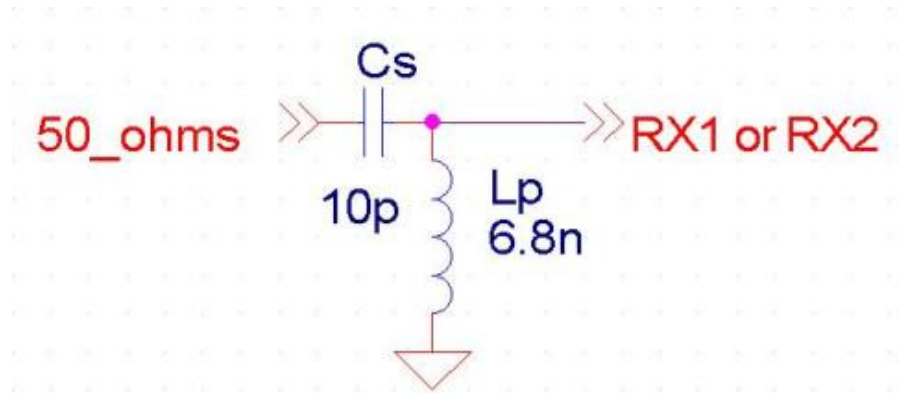

Figure 3: Typical Input Impedance Match to 50Ω (402MHz)
RX1 and RX2 are the RF antenna inputs to the AMIS-52150. The internal circuit designs are identical between these inputs. For the AMIS-52150 receiver inputs, RX1 and RX2, external components are required in order to match the low noise amplifier (LNA) to external devices such as antennas. The external components must provide a DC voltage path to the RF ground. Figure 3 suggests an external circuit for the receiver inputs at 403MHz. Each circuit's input impedance can be trimmed internally to compensate for manufacturing and external component tolerances. The circuits employ an LNA, internal filters, a low frequency, intermediate frequency (IF), and a received signal strength indication (RSSI) circuit to recover the ASK/OOK modulated data. The signals in the two input channels are "summed" before the data recovery circuit.